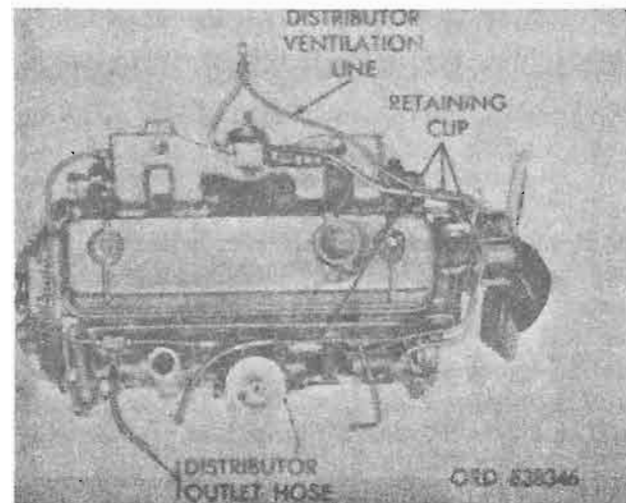

Figure 4-61. Distributor ventilation line and hose.
c. *Ventilation Line (Distributor)*. Remove two retaining clips from distributor ventilation line-to-crankcase line and one retaining clip from ventilation line-to-vacuum pump line. Remove distributor inlet line, hose, and clamps. Also remove distributor outlet hose and clamp from "tee" fitting at vacuum pump line. Refer to figure 4-61.